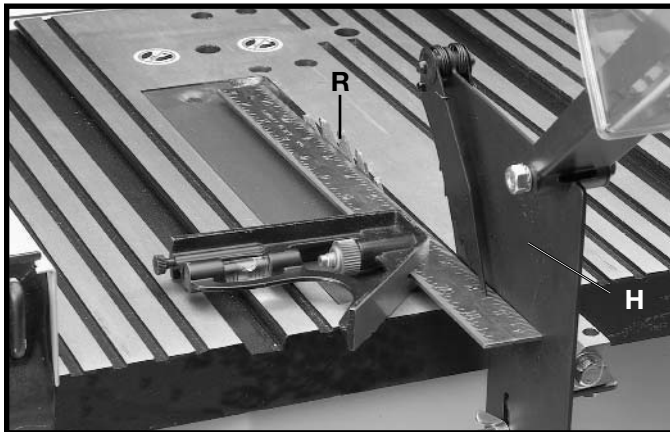

Fig. 16
10. Using a straight edge, check to see if the splitter (H) Fig. 16, is aligned with the saw blade (R). If an adjustment is necessary, the splitter (H) can be moved left or right and rotated.